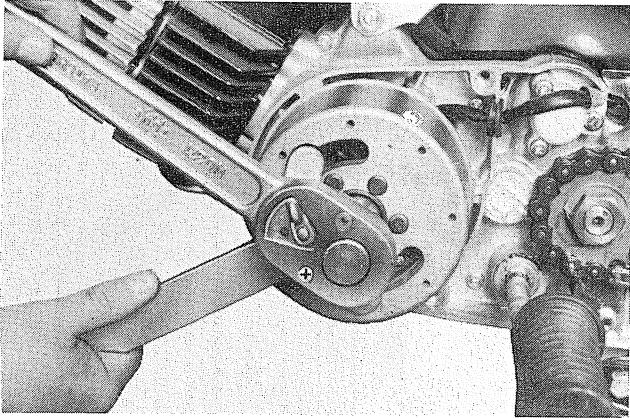

Fig. 3-1-6
5. Remove the flywheel magneto. (Fig. 3-1-6 and 7)